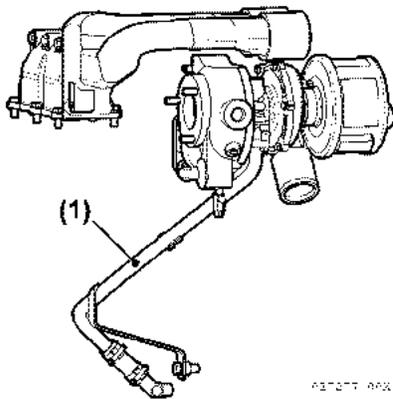

Figure 5-20
- (c) Remove the oil return line from turbine (Figure 5-20).